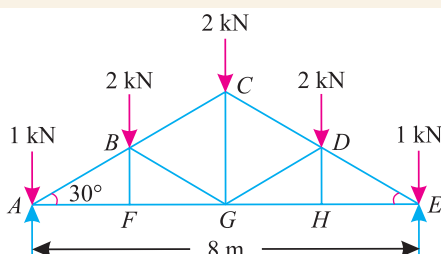

Fig. 13.20.
2. A king post truss of 8 m span is loaded as shown in Fig 13.20. Find the forces in each member of the truss and tabulate the results.